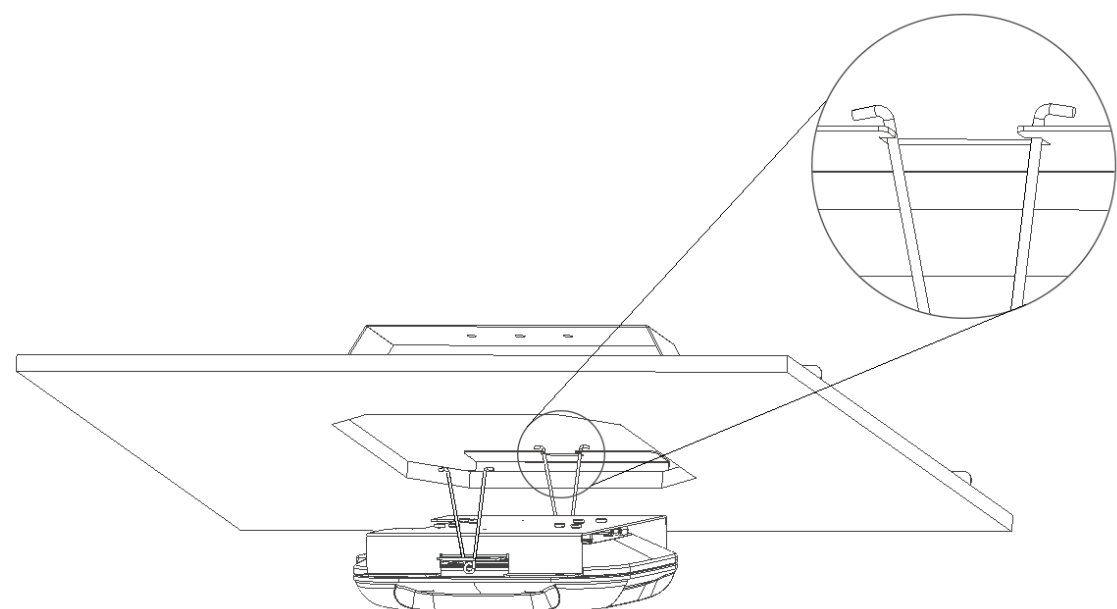

Figure 8 - Assembly of Trim to Backbox
Step 8 - To complete the installation, attach the Ethernet cable to the access point. Then compress the torsion spring on one side of the trim assembly and place it into the opening of the spring retainer on the tile bridge, as shown in Figure 8. Repeat the same procedure for the second torsion spring to the other spring retainer. To complete the assembly push the trim up toward the ceiling tile, the torsion springs will draw the trim up tight against the tile.